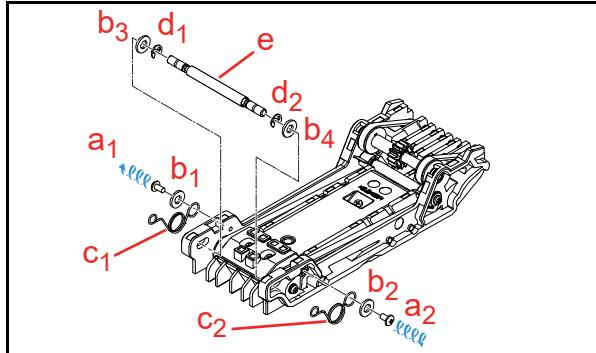

**Figure 4-83** Sponge Roller Assy. Removal (Front Transport Unit) 6
12. Remove the four (4) Pulley Pins (Figure 4-83 *a*1 through *a*4).
13. Remove the four (4) E-rings (Figure 4-83 *b*1 through *b*4) to remove the four (4) Sponge Roller Assy. (Figure 4-83 *c*1 through *c*4).